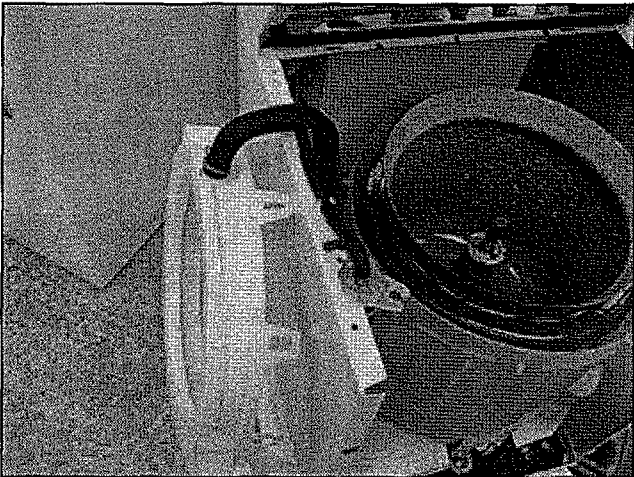

FIGURE 8
9. Unsnap and remove the tub ring. Lay over side panel. See Figure 8.